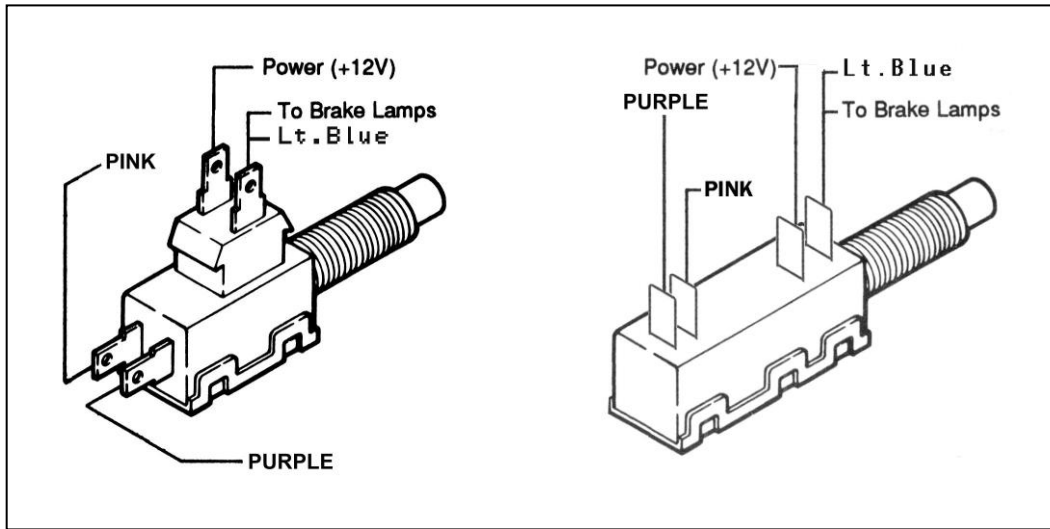

FIGURE 6.2 Brake Switch Connections
- F. The Purple, Pink and Lt.Blue wires labeled BRAKE SWITCH are the wires that connect to the brake switch. The Purple and Pink wires are connected to the normally closed side of the brake switch. Pink is power and Purple is signal to let the computer know when the brake is applied. These wires must be connected so the lock up function of the torque converter will operate correctly. If you are not using a 4L60E then tape off and store these two wires. Connect the Lt. Blue wire to the normally open brake lamp side of the brake switch regardless of which transmission you are using. See **Figure 6.2**.